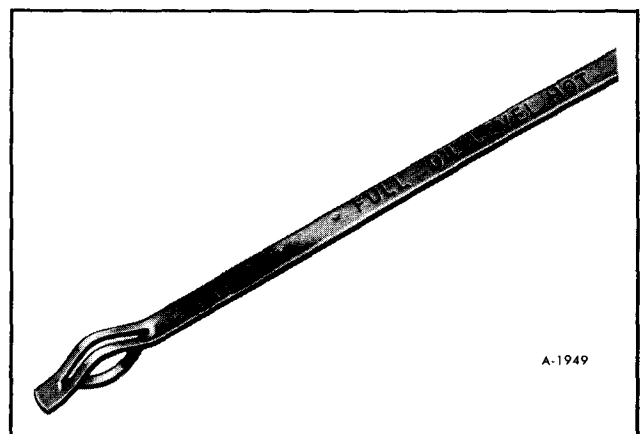

Figure 16—Transmission Dipstick
8. Remove dipstick and note reading. (figure 16)